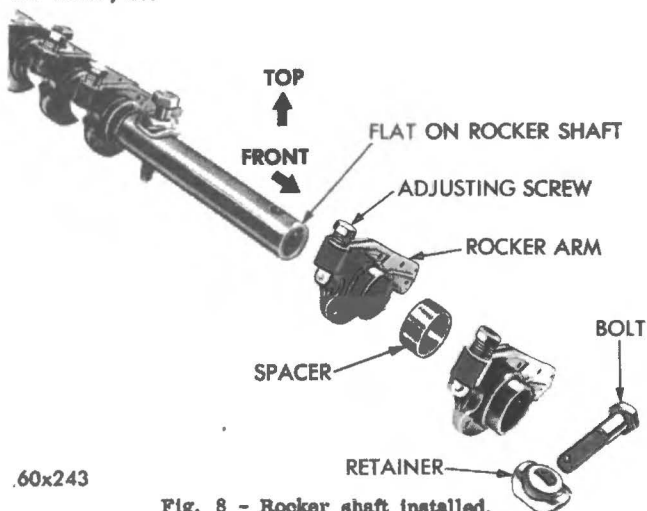

Fig. 8 - Rocker shaft installed.
(5) Install rocker arms and shaft assembly with "FLAT" on the end of the rocker shaft ON TOP and pointing toward the front of the engine, (see Fig. 8), to pro-
(1) Install the rocker arms and shaft assembly (see Fig. 8) with the flat on the end of the rocker shaft on top and pointing towards the front of the engine. This is necessary to provide proper lubrication to the rocker assemblies.
(2) Install the rocker shaft retainers between rocker arms so that they seat on rocker shaft and not on extended bushing of rocker arm.